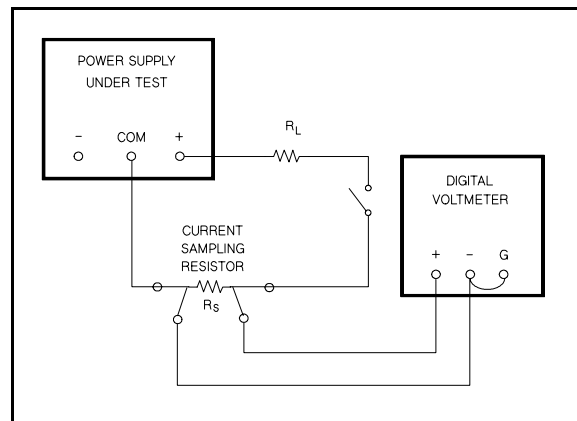

Figure A-5. Output Current, Test Set Up
- Connect the test setup shown Figure A-5 to the +6V output. Make the total resistance of R_L and the current sampling resistor equal to 2.4 Ω to permit operating the output at full load. R_L should have a power rating of at least 20 watts.
- Check the rated output and ammeter accuracy of the +20V and -20V supplies similarly by connecting the test setup of Figure A-5 to each output in turn. For each 20V supply: make the total resistance of R_L and the current sampling resistor 40 Ω , set the $\pm 20\text{V}$ VOLTAGE control for a current indication on the DVM of 0.5 A, check that the panel meter indication is within $\pm(0.5\% + 2 \text{ counts})$ of 0.5 A (0.48A to 0.52A).
- l. Connect the test setup shown in Figure A-5 to the +20-volt output. Substitute a short for R_L and leave the load circuit switch open.
- p. Connect the test setup shown in Figure A-5 to the +6V output. Close the switch, set the total resistance of R_L and the current sampling resistor to an initial value of 2.4Ω or greater, and set the output voltage to 6 volts.